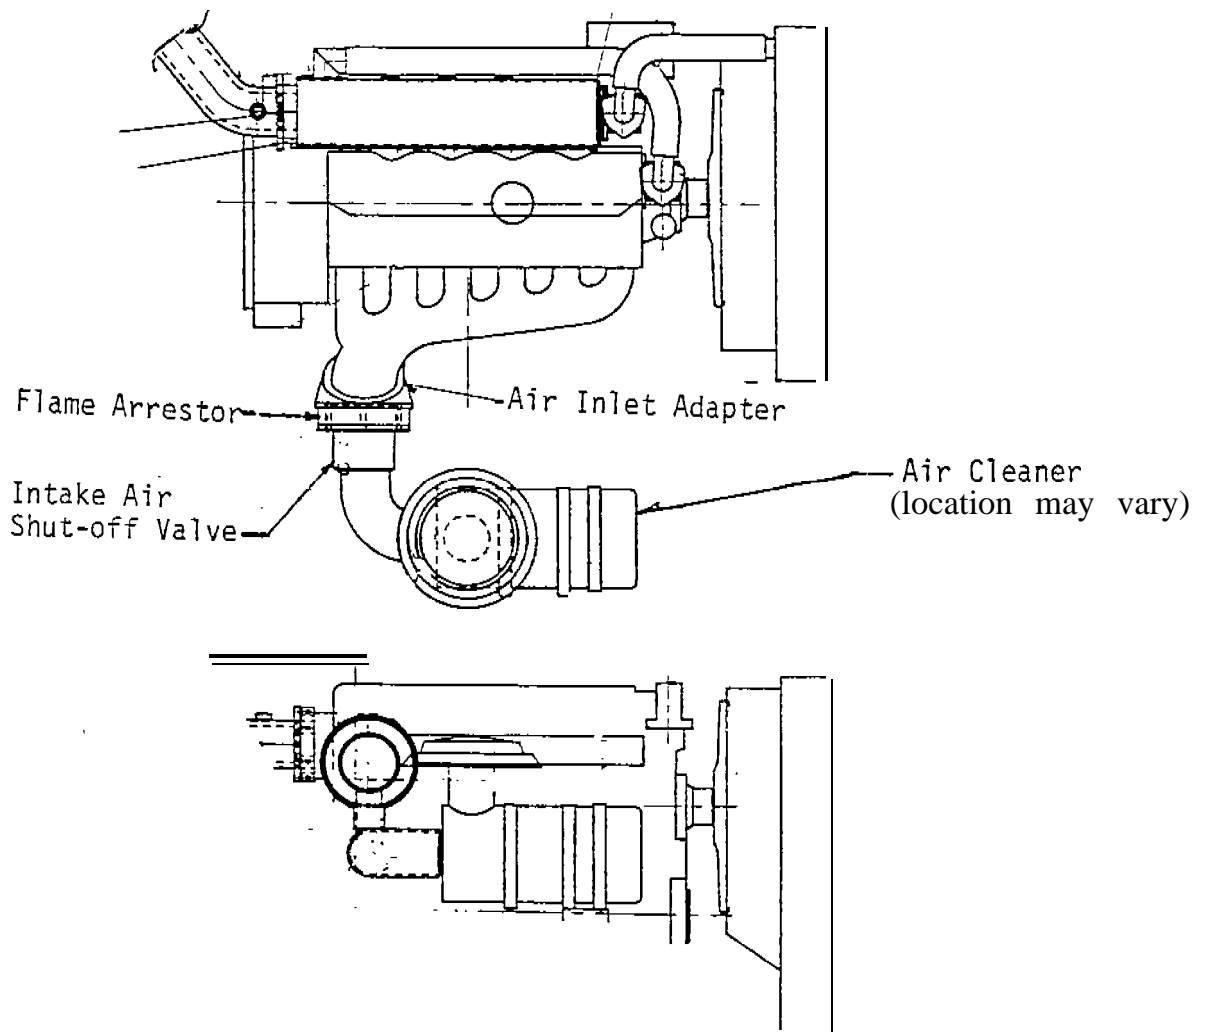

Figure 1. Assembled Intake System
Figure 1 shows the assembled Intake System.
- (WEEKLY) 3. () All components appear to be the same as those shown in figure 1.